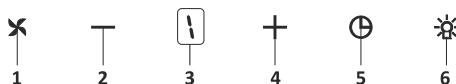

Fig. 14: 5 Spd Dig Button
1. ➤ Press this button to turn on the product. Fig. 14
2. ➤ Press this button to decrease the motor speed. Fig. 14
3. ▶ Dig display You can follow which speed the product is currently working on this display.Fig. 14
4. ▶ Press this button to increase the motor speed.Fig. 14
5. ▶ When timer button is pressed, a 15-minute timer function will be activated; display will give a signal once the timer starts and the motor will stop automatically after 15 minutes.Fig. 14
6. ▶ Press this button to turn on and off the lamp.Fig. 14